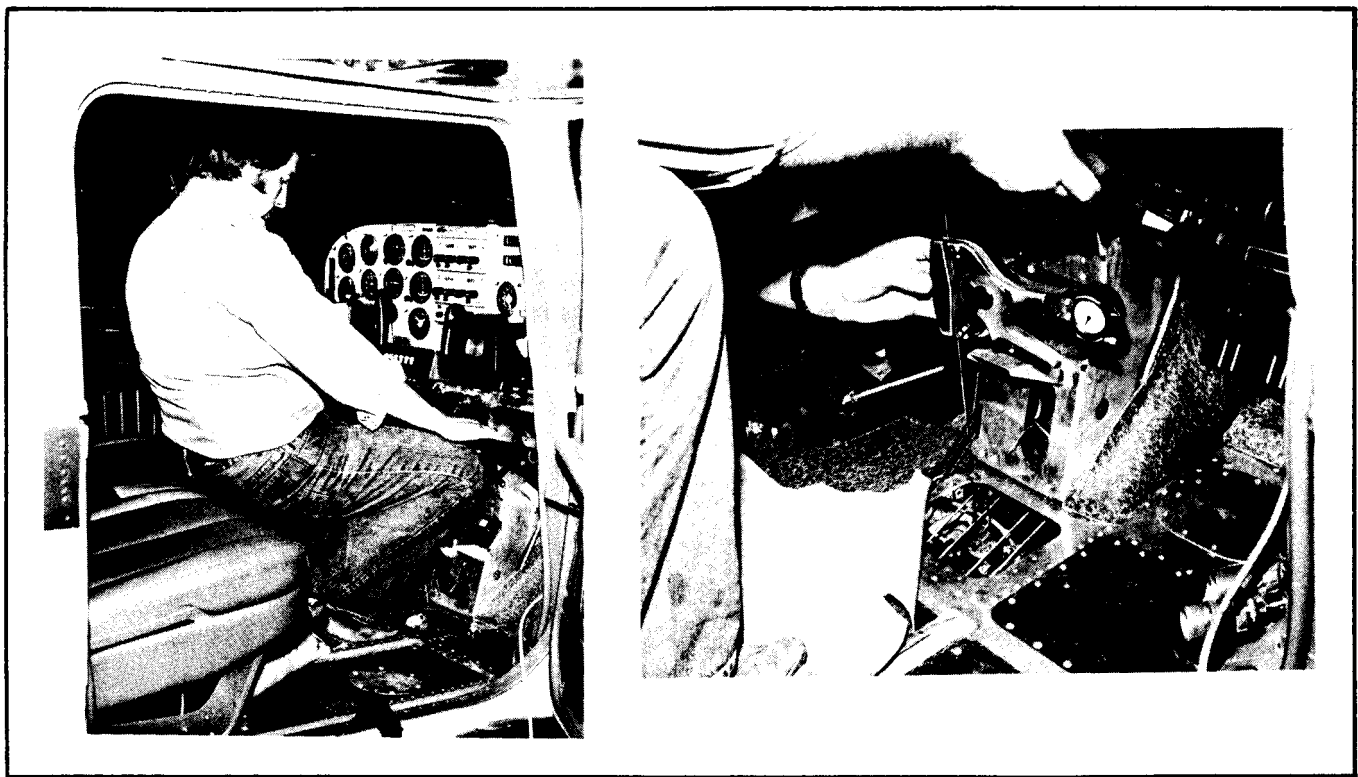

Figure 2.
8. Seated, as shown in figure 2 and with tensiometer attached to cable, exert an upward force using arms and legs, of 130 lbs. minimum to 150 lbs. maximum.